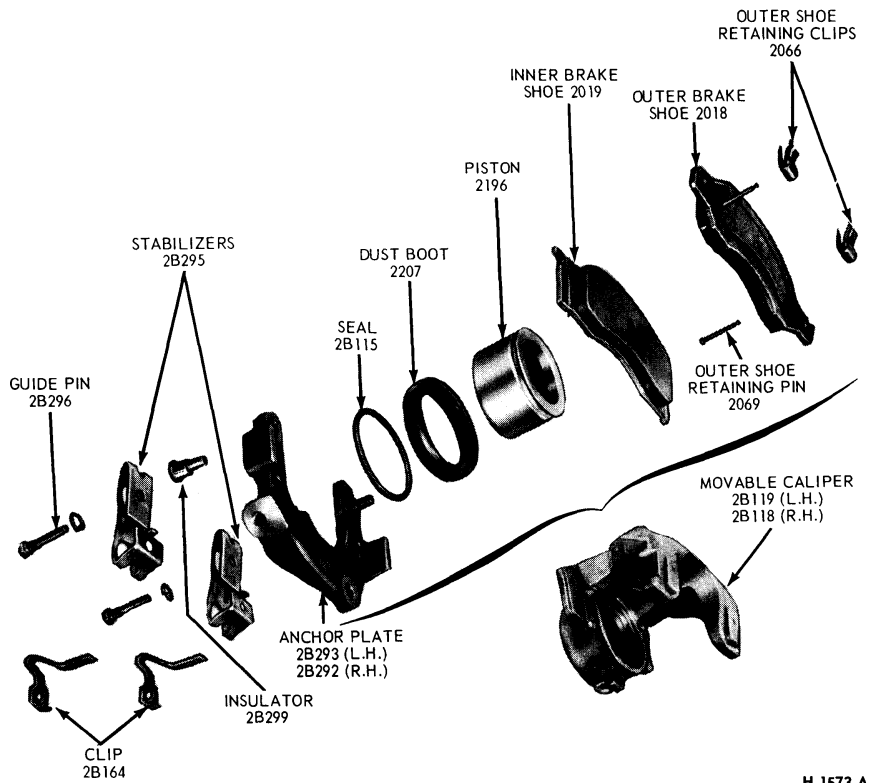

FIG. 28 — Caliper Assembly—Disassembled
3. Slide the two outer shoe retaining clips off the retaining pins (Fig. 28).